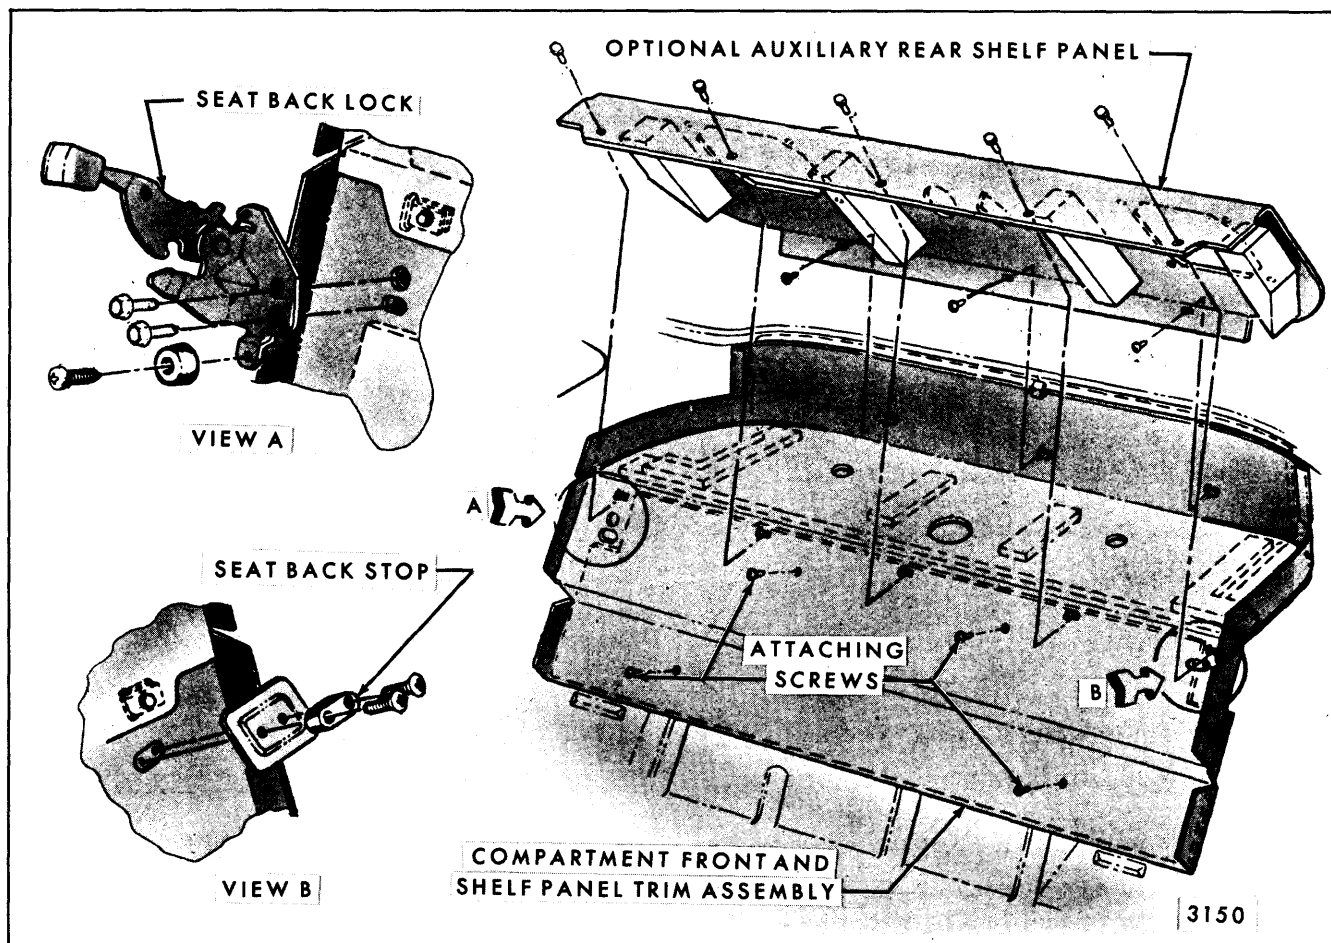

Fig. 14-45—Compartment Shelf Trim and Auxiliary Shelf Trim Panel "Z" Styles
5. Remove all exposed screws from compartment front and shelf panel trim assemblies; seat back bumper and seat back lock from styles with folding seat back, and rear seat back support assembly from styles with stationary seat back (See Fig. 14-45).
6. Remove optional auxiliary rear shelf panel (on styles equipped with optional back window defogger or rear seat speakers), by removing five attaching screws in front edge of auxiliary panel, lifting panel and removing three attaching screws from inside rear edge (Fig. 14-45).